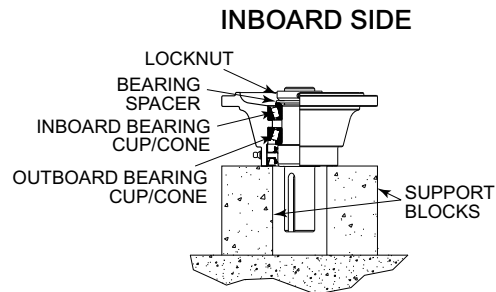

Figure 6.3.2.1 Input Endbell
- Support hub to expose the inboard side of the endbell. Reference **Figure 6.3.2.1**.